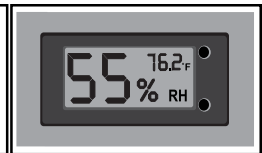

Figure 11.4
4. Position the Display Gauge back over the mounting hole and carefully push back into position (Figure 11.4).